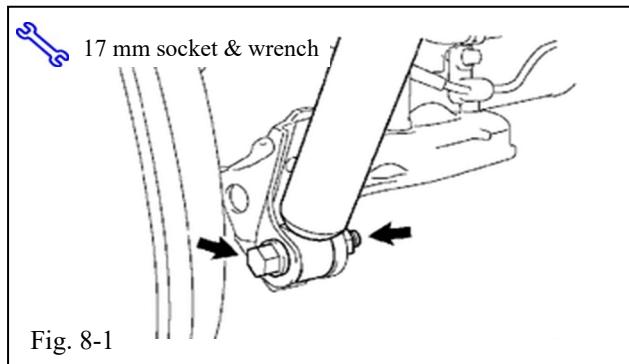

Fig. 8-1
- (c) Using a 17mm wrench, remove the bolt, nut and washer. Retain bolt, nut and washer for reuse. (Fig. 8-1)